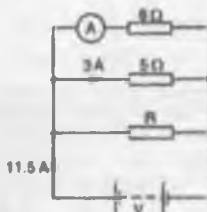

Figure 5.29
- 2 For the circuit shown in Fig. 5.29 determine (a) the reading on the ammeter, and (b) the value of resistor R